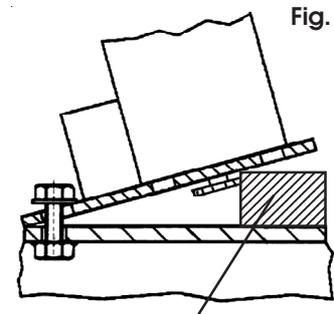

Fig. 6
3.2 Remove all but the two 'outside' column mounting screws and slacken these off sufficiently so that the column may be tilted outwards (see fig.6), in order to allow the chain to be slipped around the sprocket.
3.3 Very carefully tilt the column outwards and, as a safety precaution, place chocks between the columns' Base Plate and the Base Frame as shown in fig. 6. (Should the column slip, the chocks will prevent the column from injuring the hands of the person manipulating the chain.